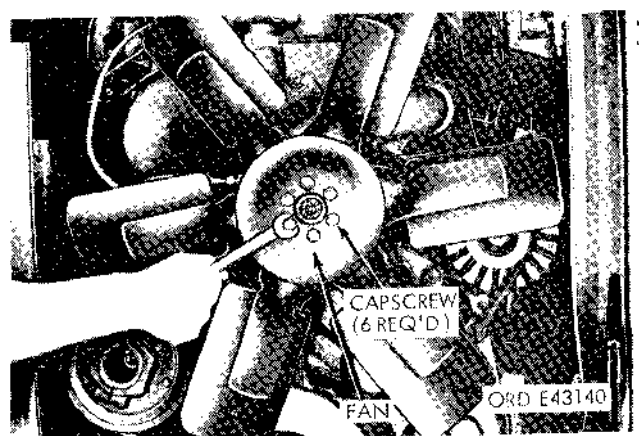

Figure 2-132. Removing fan.
- (6) Remove the capscrews (fig. 2-132) and lockwashers securing the fan to the fan pulley hub, and remove the fan.
- (2) Position the fan (fig. 2-132) at the front of the fan pulley hub, and install six capscrews and lockwashers, and tighten the screws.
- (3) Push the upper end of the radiator toward the rear of the vehicle, and install the radiator stay rod (para 2-110).